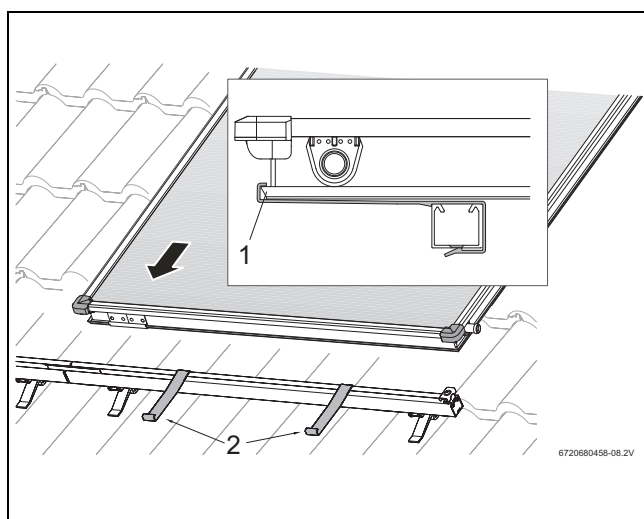

Fig. 38 Lay the first collector on the profile rails
- Place the first collector on the profile rail and insert anti-slip brackets (Fig. 38).
Position the lower collector edge in the aperture of the anti-slip bracket (Fig. 38, [1]).